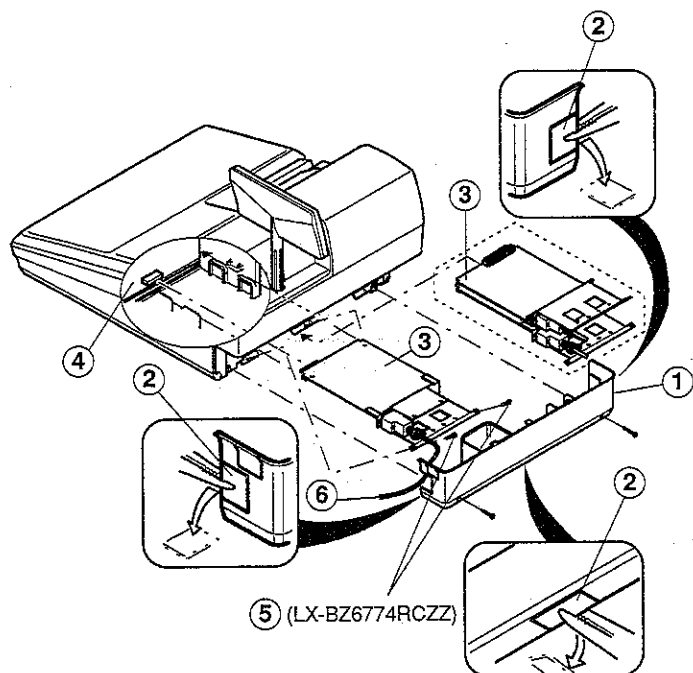

Fig. 4
- 3) Remove two rear cover holding screws and remove the rear cover (1) (Fig.4).
- 4) Break open the knockout (2) of the rear cover (1) (Fig.4). After breaking open the knockout (2), file off the new hole.
- 5) Insert the interface PWB (3) onto the connector of the main PWB (4), and fasten the bracket to the main chassis using screws (5) BZ6774RCZZ: Self tap screw) (Fig.4).
- 6) Route the external cable ⑥ through the hole and fasten the rear cover (Fig.4)